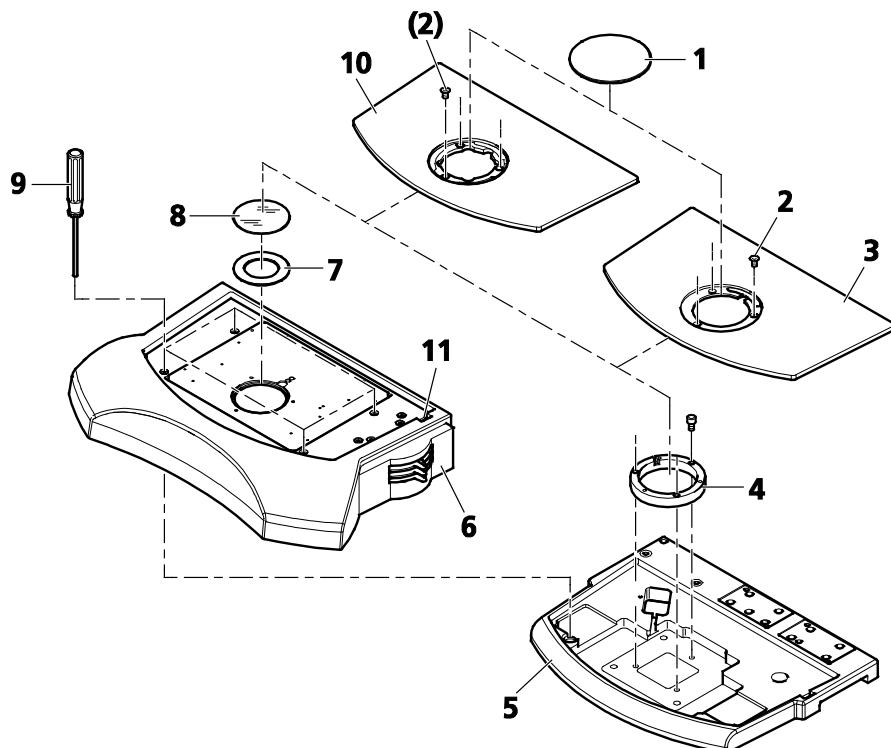

Fig. 20 Mounting transmitted light unit S
- Remove the base insert plate (Fig. 20/3). To do this loosen the short socket head screws (Fig. 20/2), lift the insert plate (use recessed grip on the right edge of stand base (Fig. 20/5) for the purpose) and lift securely with both hands.
- Loosen the three socket head screws (SW 3) on the adapter ring (Fig. 20/4) using a ball-headed screwdriver and remove the adapter ring.
- Insert the transmitted light unit (Fig. 20/6) onto the stand base. The two large plastic taper pins on the bottom of the transmitted light unit must click into the stand base.
- Use the ball-head screwdriver (Fig. 20/9) to screw down the four countersunk socket head screws (SW 3) hand-tight on the transmitted-light unit.
- Lay the base insert plate (Fig. 20/3) onto the transmitted light unit (Fig. 20/6).
- Insert the opal glass plate Ø 84 mm (Fig. 20/8) to prevent screws and other small parts from being lost in the course of further installation work.
- Use the three short socket head screws (Fig. 20/2) to fasten the base insert plate (Fig. 20/3) (without stage adapter) to the transmitted-light equipment.
- Replace the opal glass plate Ø 84 mm (Fig. 20/8) with insert 52/84 (Fig. 20/7).
- Insert glass plate 120 mm (Fig. 20/1); press on rear edge to remove it again.
- Remove glass or B/W plate (Fig. 20/8) and insert 52/84 (Fig. 20/7).
- Remove the base insert plate (Fig. 20/3). To do this, loosen the short socket head screws (Fig. 20/2).
- Install the ferromagnetic insert plate 450 (Fig. 20/10) or heatable insert plate 450 and secure with three socket head screws.
-  If the heatable ferromagnetic insert plate 450 is used, pass the two heating cables side-by-side through the cut-out in the insert plate and secure with three clamps. Then pass the two heating cables to the outside through the lateral cavity (Fig. 20/11) in the transmitted light unit S and connect to controller SC 300.